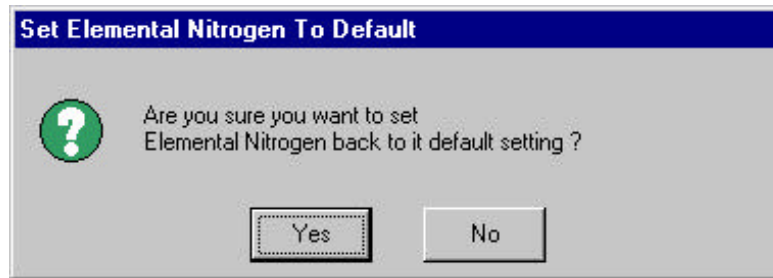

Figure 14.47
- c. A prompt box will appear (Figure 14.47).